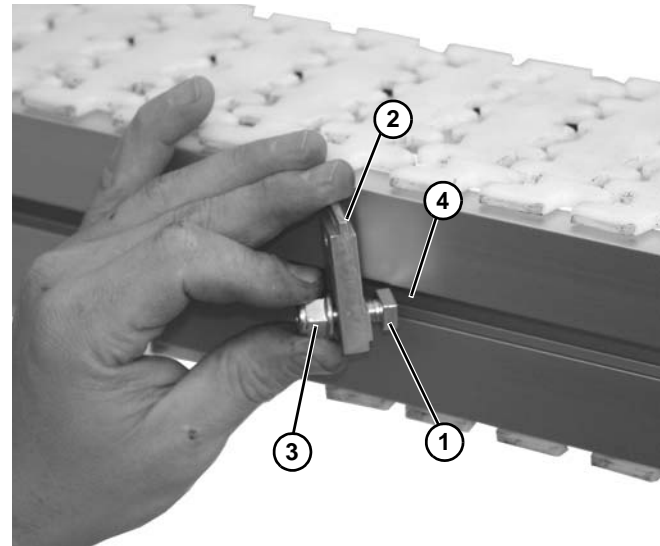

Figure 58
1. Install stud (**Figure 58, item 1**) onto retaining clip (**Figure 58, item 2**) with nut (**Figure 58, item 3**).
2. Install stud (**Figure 58, item 1**) into side rail channel (**Figure 58, item 4**). The end clips should be no greater than 12" from end of the conveyor.